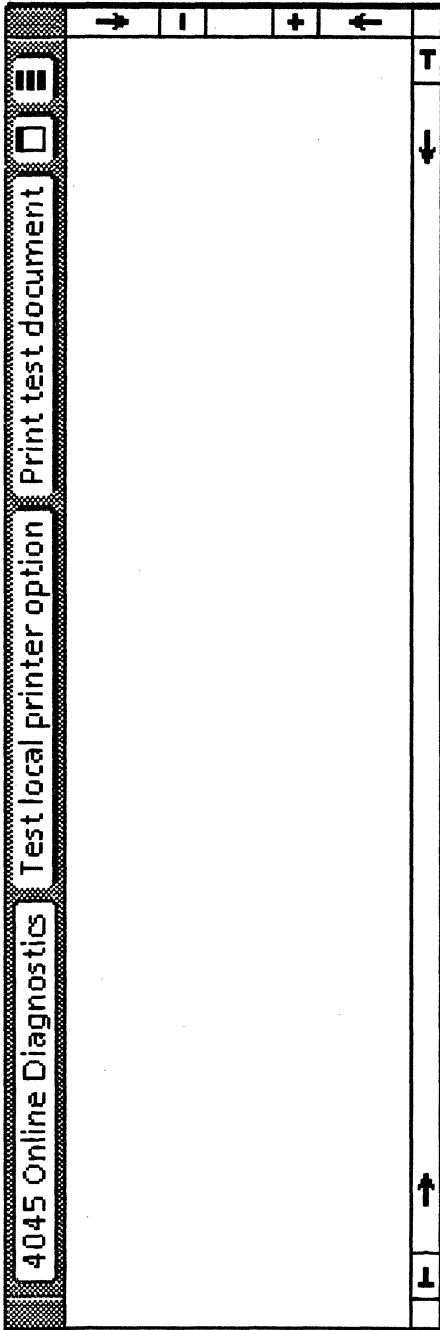
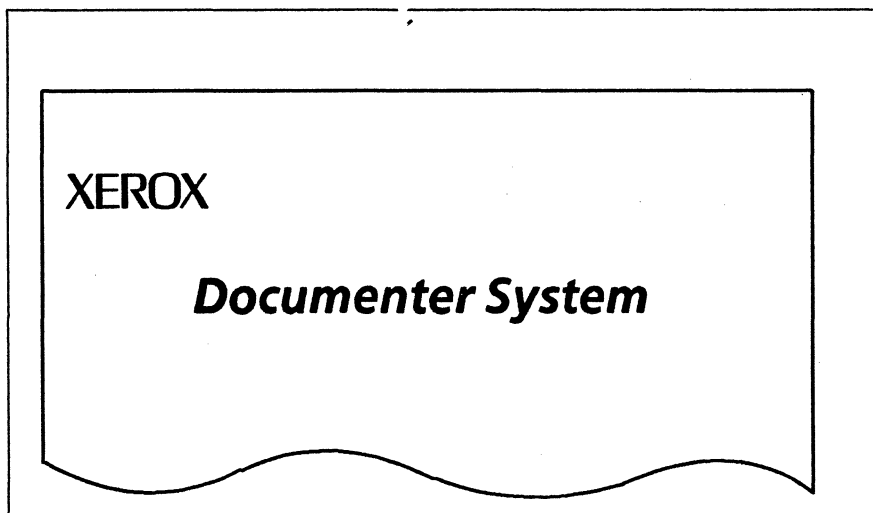

Figure 5-6 4045 Online diagnostics window
Figure 5-7 Test document
3. Select [Print Test Document] in the 4045 Online Diagnostics window (Figure 5-6). The test document (Figure 5-7) should print.